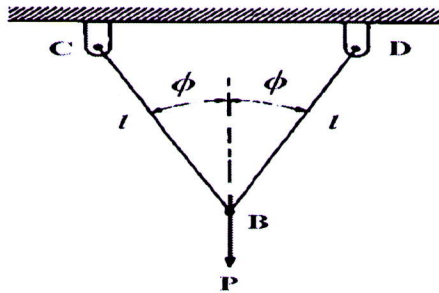

Fig. 4
- 11 a) Explain the principle of virtual work (3)
- b) Obtain an expression for vertical deflection of point B of the structure if a vertical force P is applied as shown in the Fig. 4. The cross-sectional area of the members BC and BD of equal length (l) be A and take the Young's Modulus of the material as E . (7)